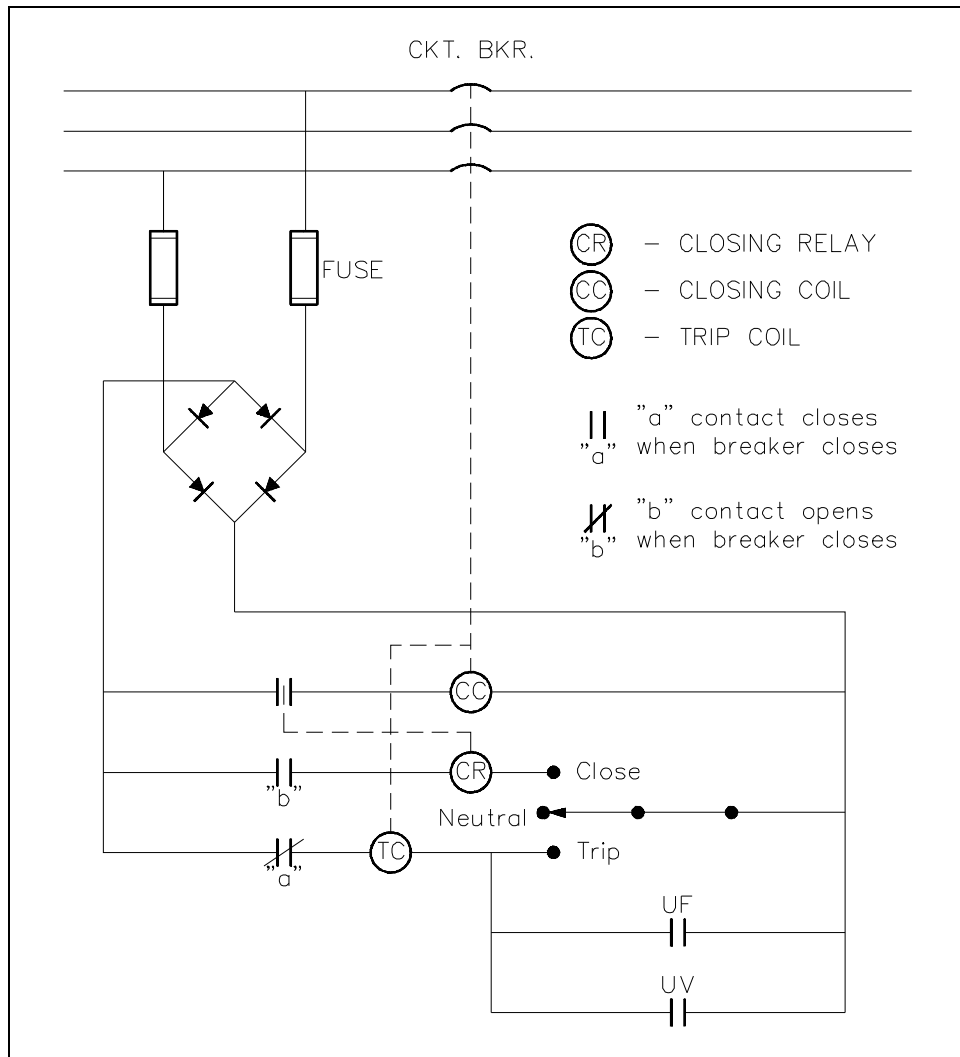

Figure 8 Simple Circuit Breaker Control Circuit
To close the remotely-operated circuit breaker, turn the circuit breaker control switch to the close position. This provides a complete path through the closing relay (CR) and energizes the closing relay. The closing relay shuts an auxiliary contact, which energizes the closing coil (CC), which, in turn, shuts the circuit breaker, as shown in Figure 8. The breaker latches in the closed position. Once the breaker is shut, the "b" contact associated with the closing relay opens, de-energizing the closing relay and, thereby, the closing coil. When the breaker closes, the "a" contact also closes, which enables the trip circuit for manual or automatic trips of the breaker. The circuit breaker control switch may now be released and will automatically return to the neutral position.